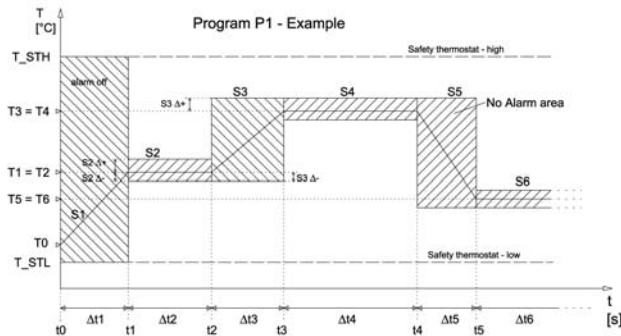

Fig. 55
Shows Fig. 55 an example of program P1, consisting of six segments S1 up to S6. Each segment is clearly defined in terms of length and the temperature to be attained in that particular segment. For example, the first segment S1 has the time t1 and the end temperature T1 (i.e. must run to temperature T1 at time t1). The end temperature of segment S2 is the same as that for S1, and is therefore horizontal. The required end temperature for segment S5 is lower than for segment S4 – it is decreasing.
The next step is to set the program sub-segments. Fig. 55 shows the example of temperature regulation program P1, which consists of six segments, S1 to S6. Each segment has a defined time and temperature that is to be attained within that specific time.
- The target value of the horizontal segment is the same as the target value of the previous segment. For example, the required temperature for segment S2 (Fig. 55) is the same as for the previous segment (S1), and it is therefore horizontal.
- (1) Monitored variable
- (2) Setting monitored limits
- See fig. 55.
- (3) Device action when an alarm occurs.